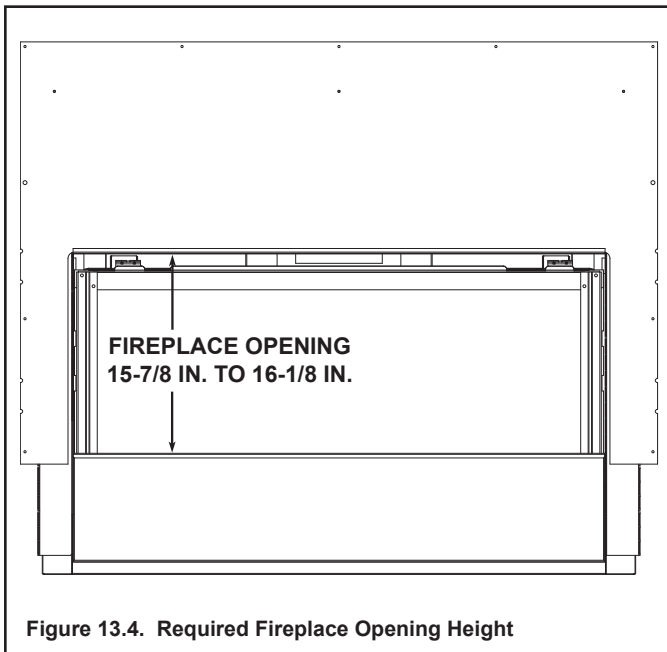

Figure 13.4. Required Fireplace Opening Height
Verify that the lower cover panel is installed correctly, and that the fireplace opening height is between 15-7/8 in. and 16-1/8 in. See Figure 13.4.
**Note:** The lower cover panel must be pushed all the way down. The outer finishing flanges should line up. The fireplace opening must be between 15-7/8 in. and 16-1/8 in. for the decorative fronts to fit correctly. See Figure 13.4.